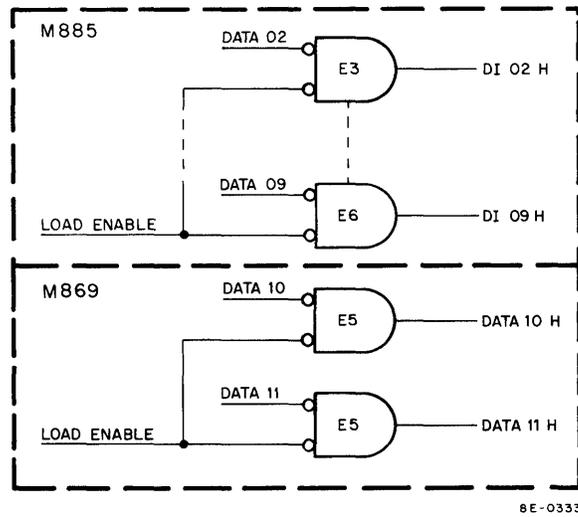

Figure 4-41 Data Gates
4.4.2.4 Data Gates – The Data Gates (see Figure 4-41) receive their inputs from the Data Bus when the DILX or DILY instruction is executed. LOAD ENABLE, also generated by these instructions (see Figure 4-39), will enable the Data Gates to apply the 10 bits to the X and Y Holding Registers. Data Gates for bits 02–09 are located in the M885 module; the gates for bits 10–11 are located in the M869 module. Bits 10 and 11 are applied to the Holding Register through the H851 Edge Connector.